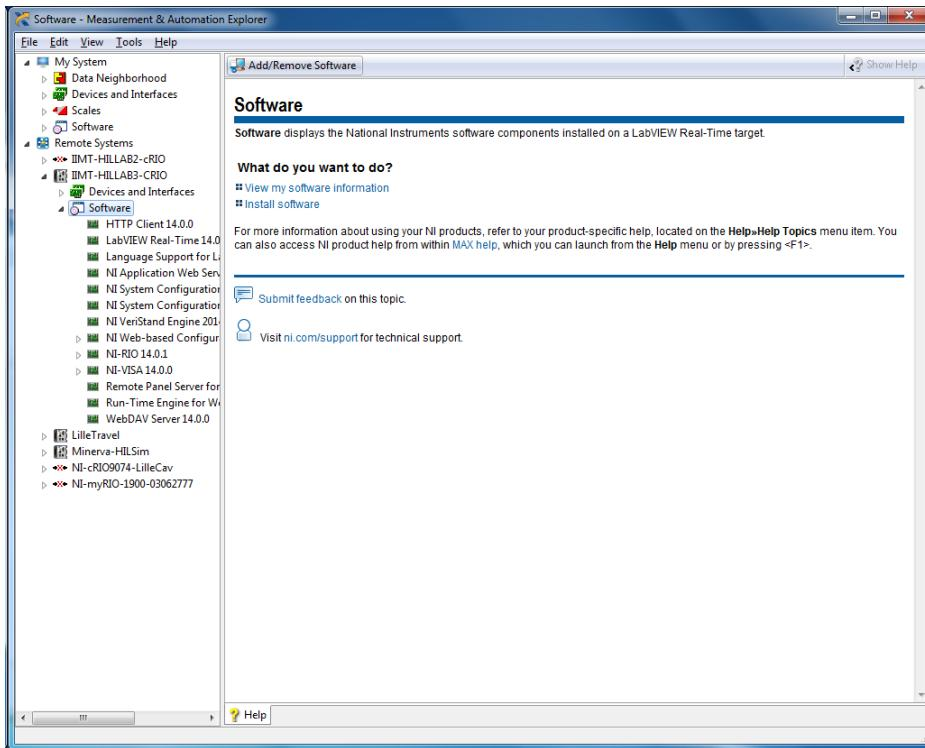

Figure 20: NI MAX - Software Update 1
3. Click Software, and then Add/Remove Software located on the top pane, see Figure 20